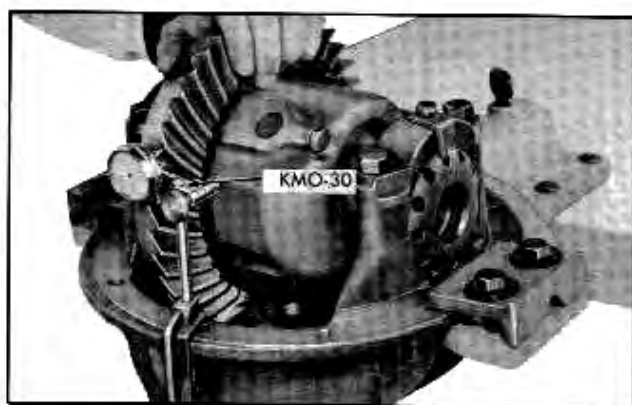

Fig. 4-14 Checking Backlash With Indicator KMO-30 Set
1. Check backlash between ring gear and pinion using indicator set KMO-30 (Fig. 4-14). Backlash should be between .003" and .012", checked at two or more equally spaced points around ring gear. If backlash is outside limits, it will be necessary to move gear away from the pinion to increase backlash or